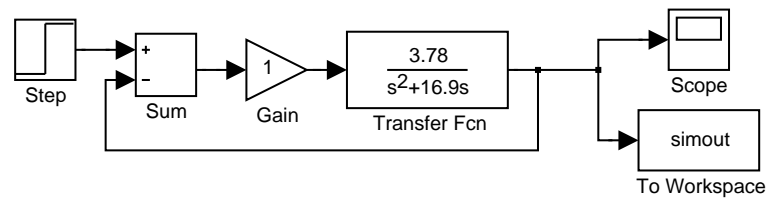

Figure 14: Proportional Control of Motor Cart
2. Using SIMULINK, construct the block diagram shown in Figure 14 and use it to answer the following.